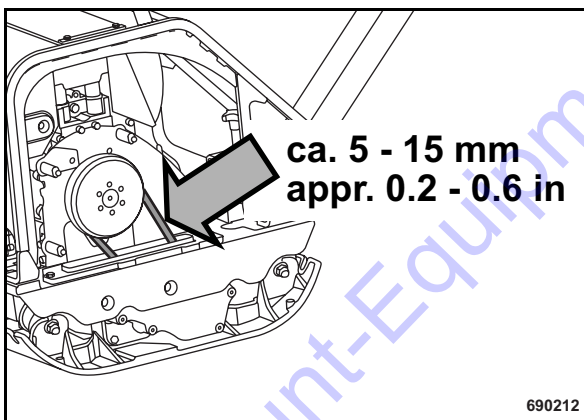

Fig. 56
- Check condition and tightness of V-belt (Fig. 56).